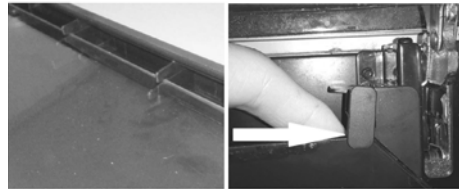

Fig. 3
6. The inner and the middle glass must be placed properly in the cut outs in the upper plastic cover (see Fig. 3).